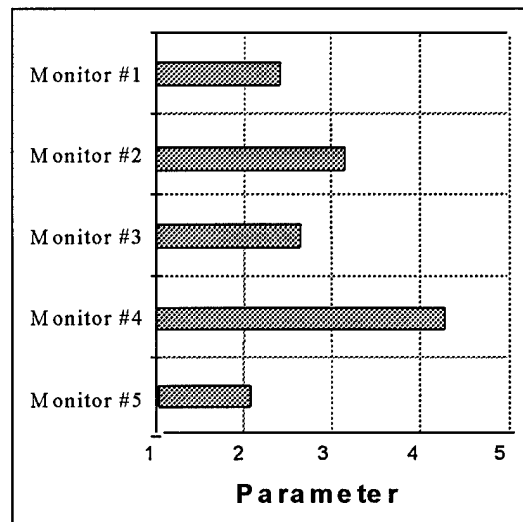

Figure 3. An example of a bar chart showing a value of 3.2 for Monitor #2.
(3) A conventional bar chart is illustrated in Fig. 3, in which the length of the bar indicates the value of the measured parameter. The left edge of the bar has no significance.